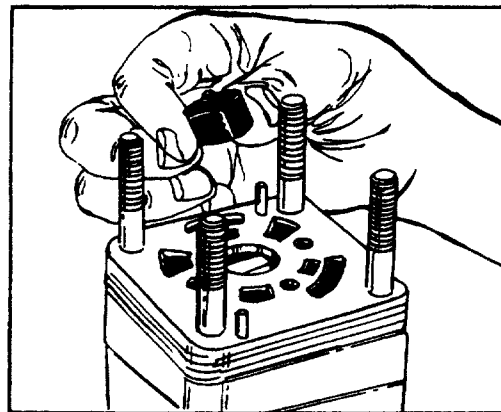

FIGURE 15.
16. Remove hex. drive assembly (10) from drive link (16). See figure 15.
17. The pin in the hex. drive assembly (10) should not show wear and must be firmly pressed in place. The sides of the hex. and the slot should not have grooves or scoring. If the hex. drive assembly (10) shows signs of this type of wear, it must be replaced.